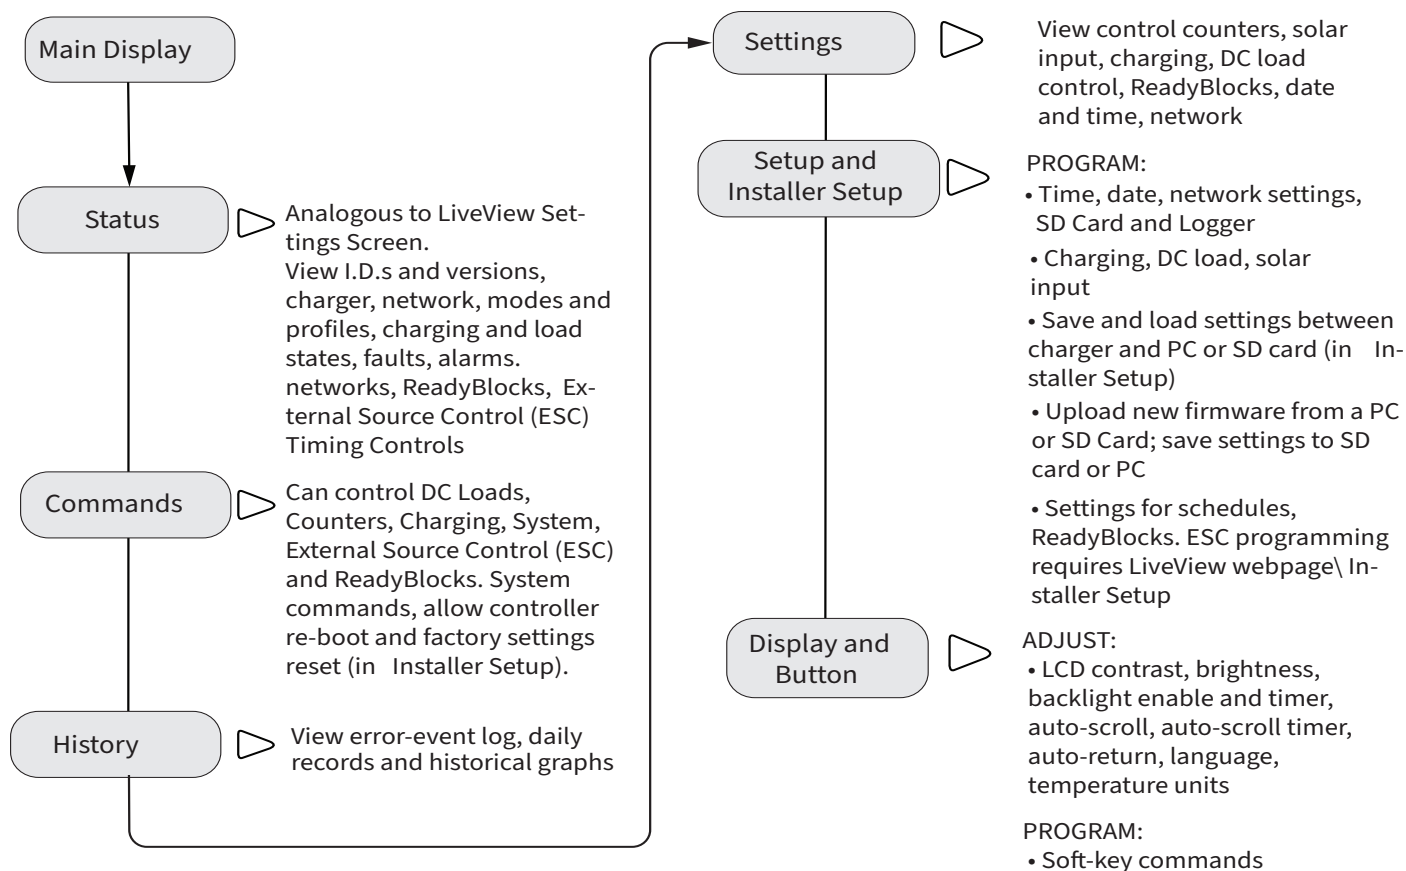

Figure 4-1. Main Local Meter Display Menus
All settings - excluding factory reset and controlling Ethernet writes - can be configured using Morningstar LiveView web pages. See the main LiveView web page for locations and screens. The configuration sections describe all settings details in terms of LiveView screens, and many settings are also accessible within the Setup-Installer Setup on-board meter menus shown below in Figure 4-1.
*See Figure 4-1*
GenStar cannot be commissioned using LiveView. Commissioning requires use of the unit's meter interface. The various LiveView-local meter categories, and their uses, are summarized in Figure 4-1 above.